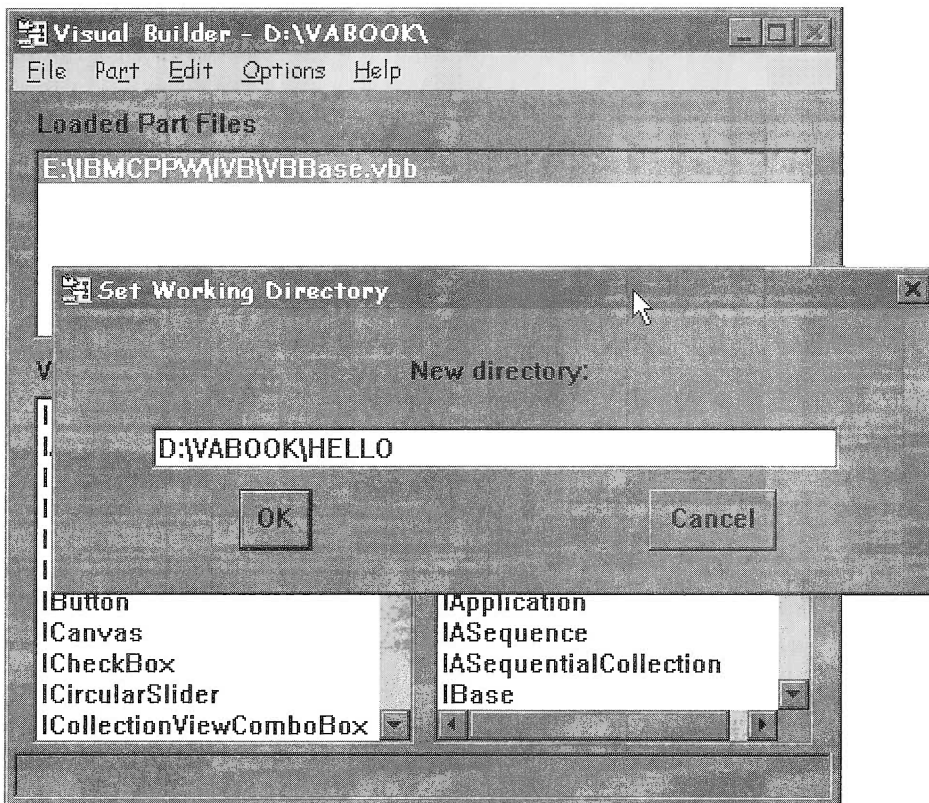

Figure 16: Working directory
- ❑ Enter **x:\VABOOK\HELLO** where **x:** is drive where you installed the lab exercises, see Figure 16.